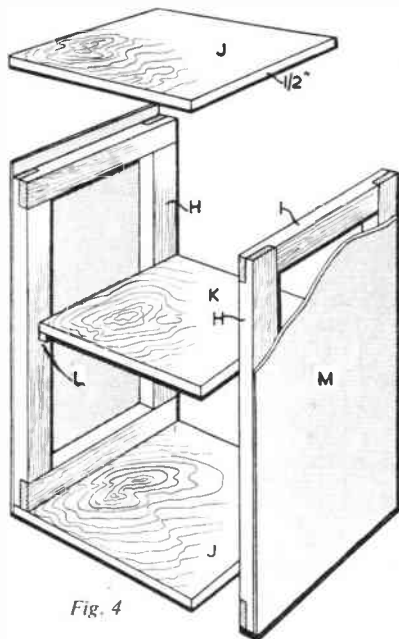

Fig. 4
Next the cabinet as indicated in Fig. 4. Two frames measuring 20 ins. by 15 ins. are made up from 1 in. by $1\frac{1}{2}$ in. material halved together. The shelves (J) and (K) are cut from $\frac{1}{2}$ in. plywood. Shelves (J) are nailed to the frames and the middle shelf (K) is supported by pieces of $\frac{3}{4}$ in. square stripwood (L). Hardboard is cut to size and pinned in place to cover the frames (M).